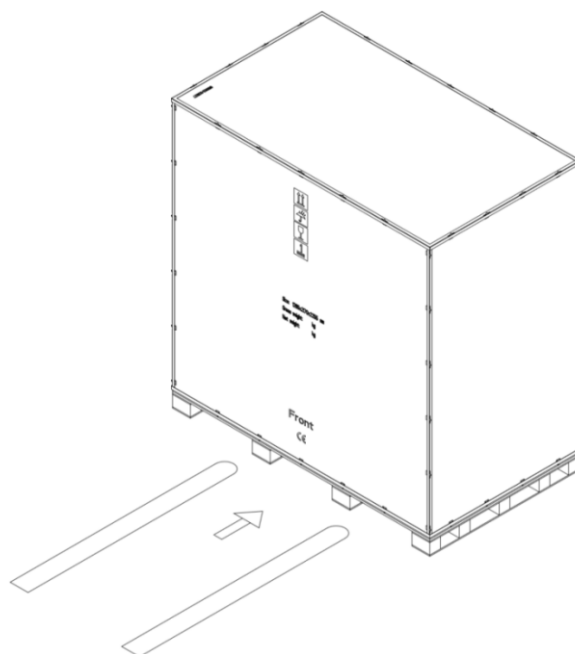

Figure 3-51 Transport the equipment to the designated location
Step 2: Use a forklift to transport the equipment to the designated location, see Figure 3-51;